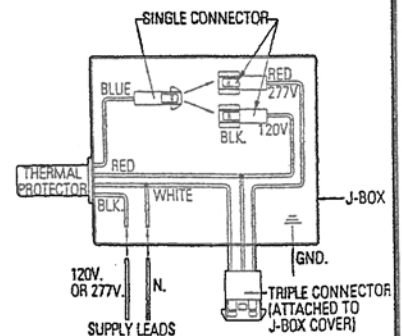

FIG. 10
1. Install MOUNTING FRAME using ADJUSTABLE MOUNTING BRACKETS (as shown below). Fixture must be secured to structural ceiling members. Plug blue lead (single connector) to black lead (single connector) for 120V (see Fig.10). For 277V supply plug blue lead (single connector) to red lead (single connector)(see Fig.10). Connect to supply leads: bare wire to supply ground, white wire to common supply lead, and black to 'hot' supply lead. Use wirenuts(local hardware items). Place all electrical connections in the J-BOX. Attach J-BOX COVER onto J-BOX.